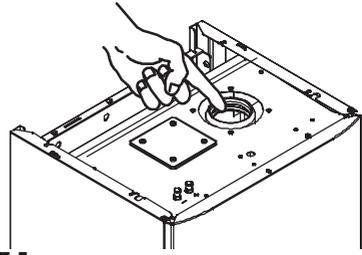

Fig. 7.5
**Fill the built in condensate trap by removing the flue elbow and pouring a cupful of water into the flue outlet (Fig. 7.5).**